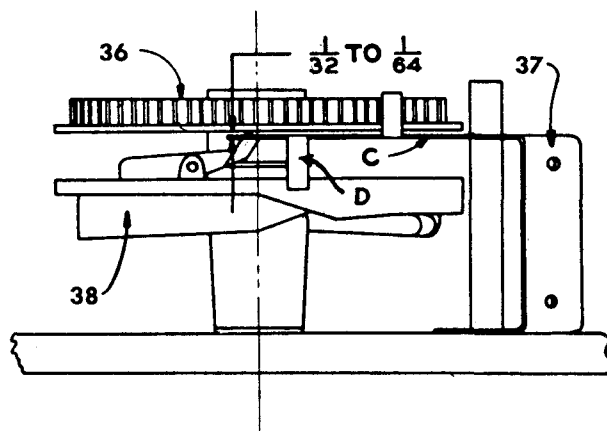

Fig. 5
If the trip assembly chatters while the changer is running, or if the changer cycles before the entire record is played, there is probably insufficient clearance between the hook end of the Velocity Trip and Roller Assembly (37) and the Actuating Gear (36). This clearance should be adjusted to be within  $\frac{1}{32}$ " to  $\frac{1}{64}$ " by bending the lever at point "C" shown in Fig. 5.